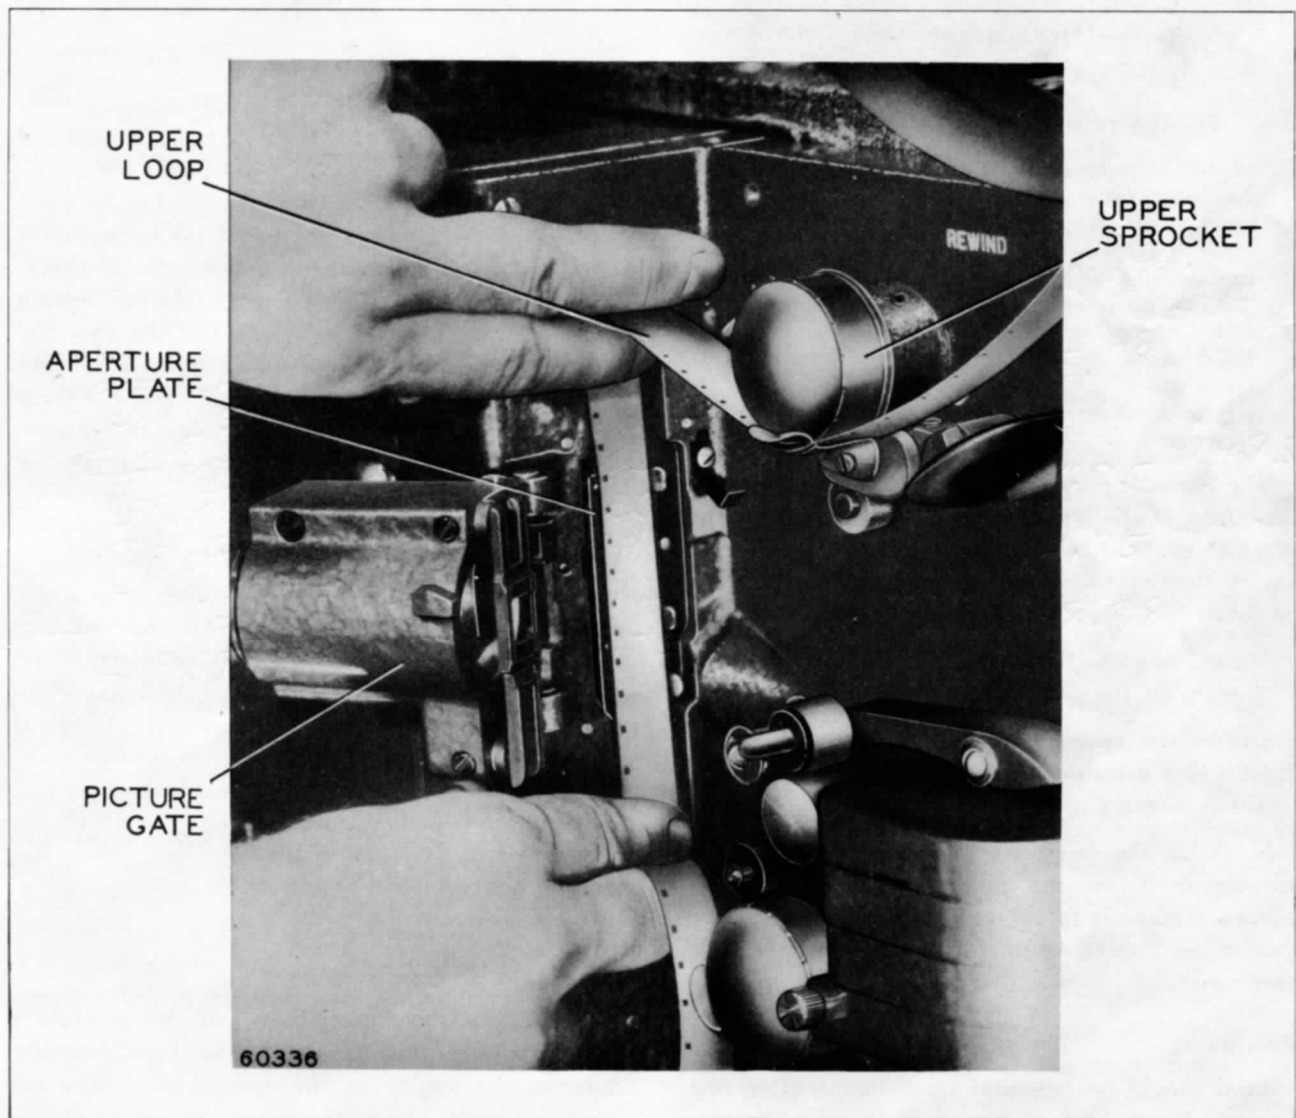

Figure 5—Placing Film on Aperture Plate
f. Open the picture gate by pulling the gate knob and place the film flat on the aperture plate as shown in figures 5 and 2. Form the upper loop of film above the aperture plate so that the film follows the white guide line on the projector frame. Close the picture gate with your thumbs.